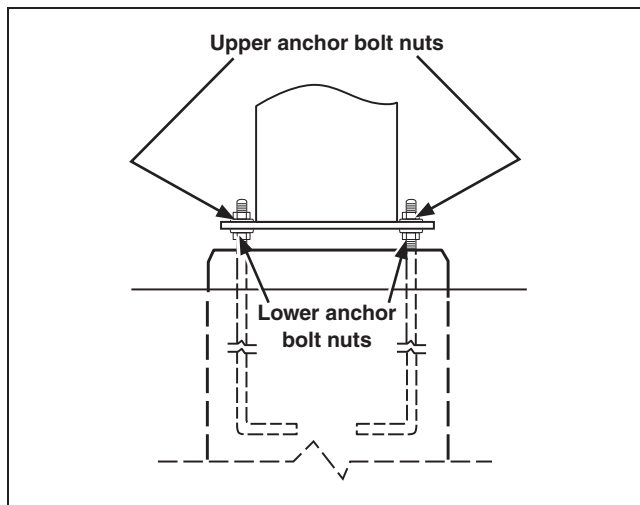

Figure 4. Hand-tighten lower nuts and securely tighten the upper set of anchor-bolt nuts at each mounting pedestal.
- STEP 4.** Check the lower set of anchor-bolt nuts at the mounting pedestal to verify each is in contact with the bottom of the plate. Hand-tighten these anchor-bolt nuts as needed. See Figure 4.
- STEP 5.** Securely tighten the upper set of anchor-bolt nuts. See Figure 4. Remove the eyebolts from the mounting pedestal frame.